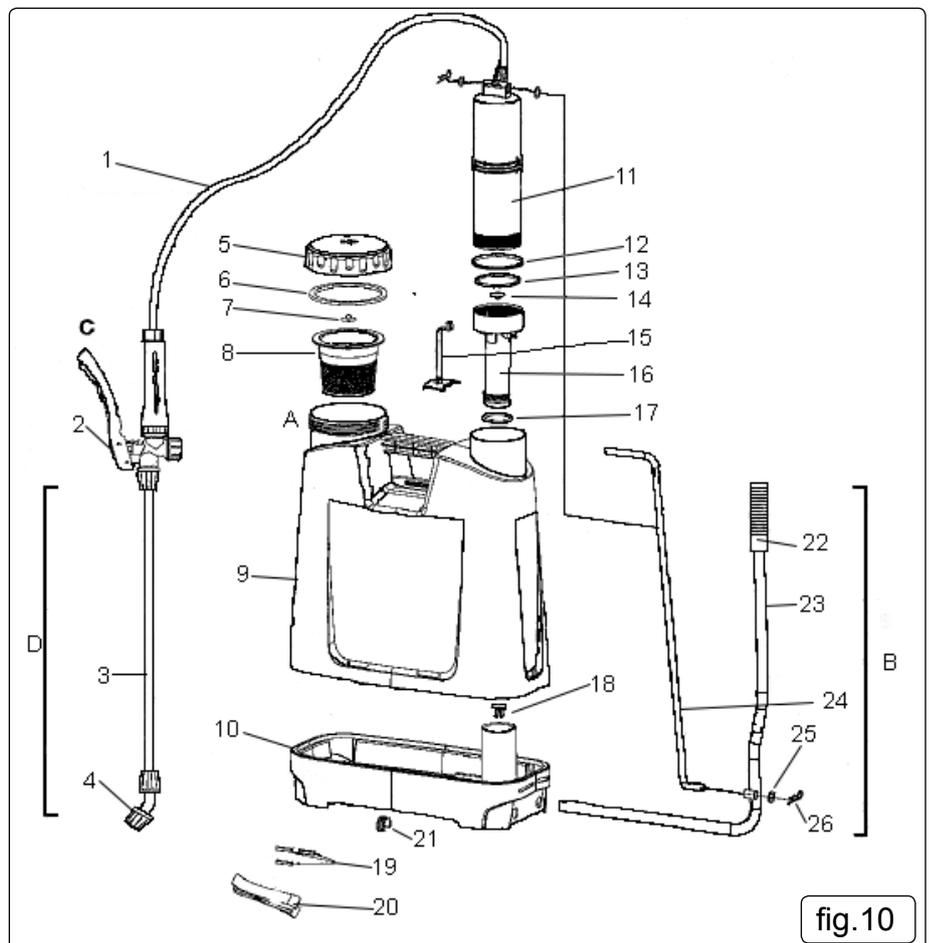

fig.10
- 5.2. Open Container cap A (fig.10) and pour in required liquid, replace cap and tighten firmly by hand.